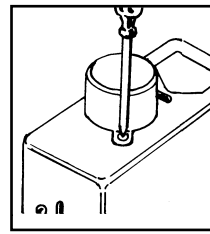

Figure 5
3. Remove knob cover. (See Figure 5.)